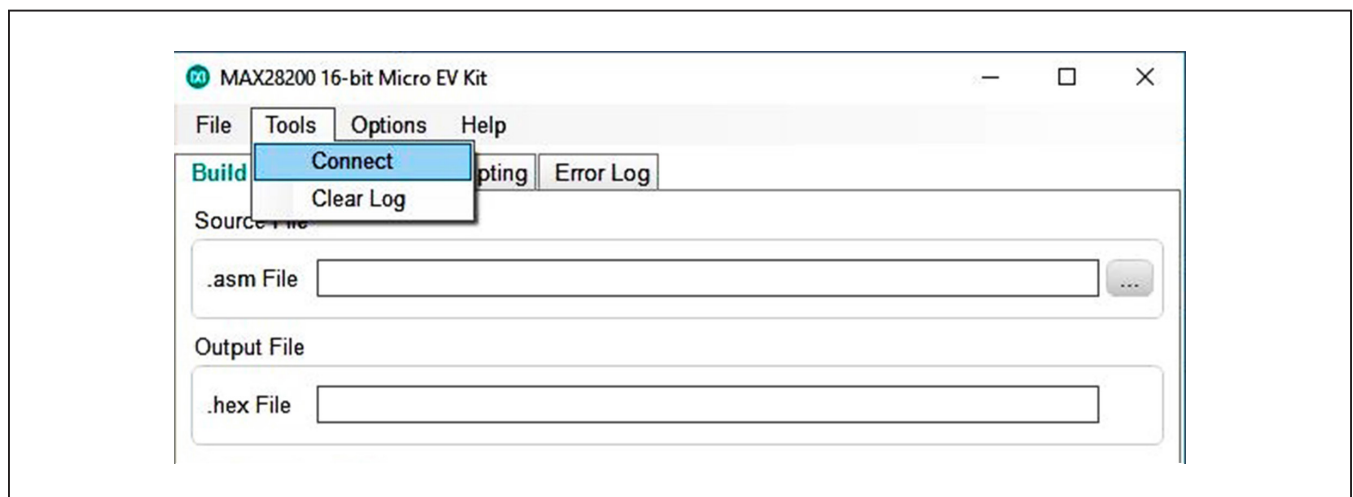

Figure 4. Connecting to Device
- 5) If the device is not detected, go to the **Tools** menu and click **Connect** (Figure 4).